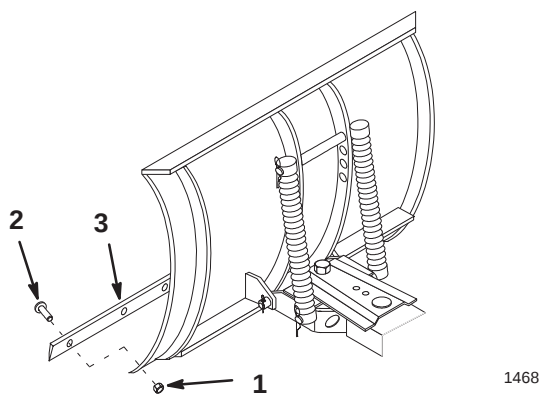

Figure 22
3. Remove lock nuts and carriage bolts to remove scraper blade (Fig. 22).
4. Reverse scraper blade to replace a worn edge and install with previously removed hardware (Fig. 22).